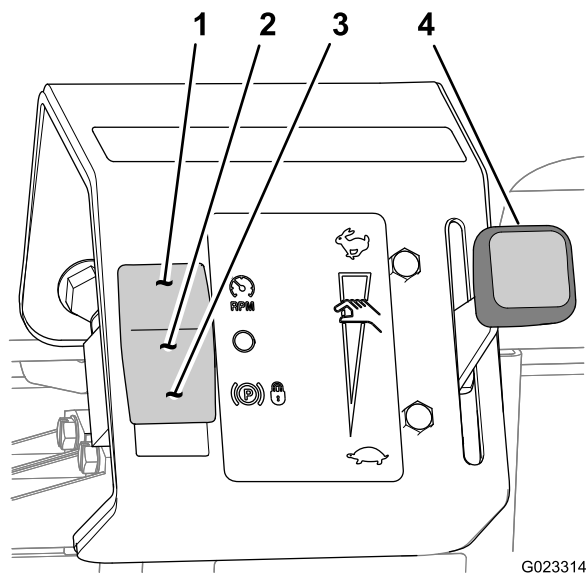

Figure 31
The hand throttle is used in conjunction with the mode switch to limit the maximum engine speed or set a fixed engine speed (Figure 31).
The mode switch (Figure 31) is used to control the function of the hand throttle for the following operations:
2. Move the hand throttle to the Slow position (Figure 31).
3. Press the mode switch up to the limit ground-speed position (Figure 31).
6. Move the hand throttle toward the fast position (Figure 31) until the desired ground speed is reached.
3. Press the mode switch up to the Off position (Figure 31).
3. Press the mode switch down to the throttle-lock position (Figure 31).
4. Move the hand throttle to the desired engine speed (Figure 31).
6. Move the hand throttle to the Slow position (Figure 31).
7. Press the mode switch up to the Off position (Figure 31).